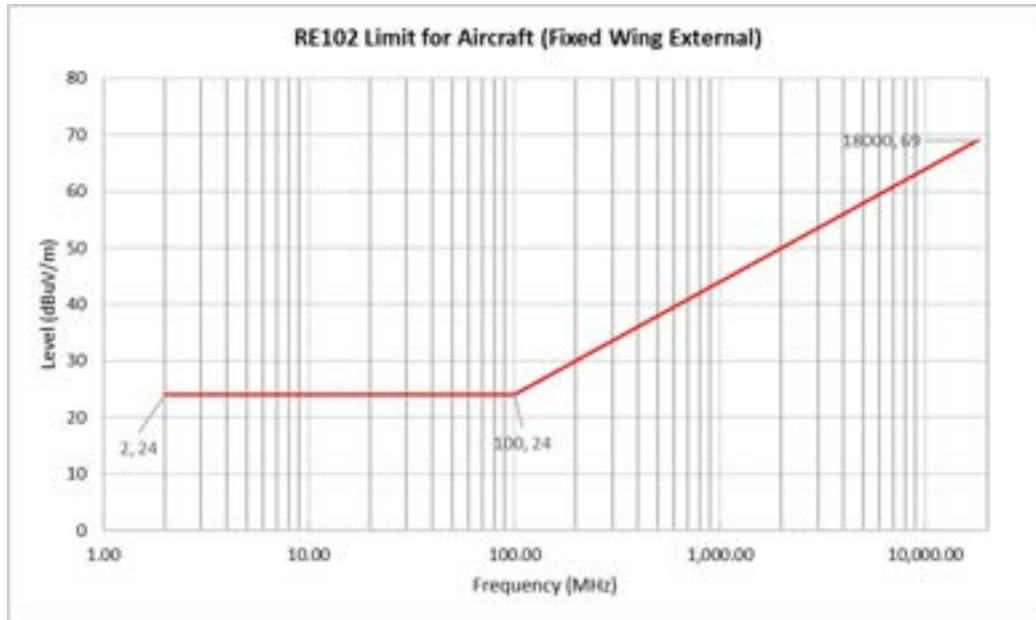

Figure 5.7-1: RE102 Limit for Aircraft (Fixed wing external)
This test verifies that electric field emissions from the EUT shall not exceed the limit specified in Figure 5.7-1 over the frequency range of 2 MHz to 18 GHz.
5. The signal generator was adjusted to produce a signal 6 dB below the RE102 limit shown in Figure 5.7-1.